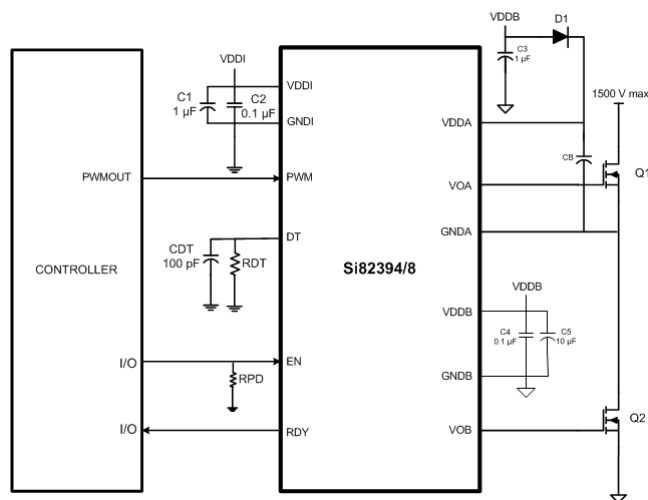

Figure 3.2. Si82394/8 Application Diagram
All high-side/low-side drivers with a single PWM input (Si82394/8) include programmable dead time, which adds a user-programmable delay between transitions of VOA and VOB. When enabled, dead time is present on all transitions. The amount of dead time delay (DT) is programmed by a single resistor (RDT) connected from the DT input to ground per the equation below. Note that the dead time pin should be connected to GND1 through a resistor between the values of 6 kΩ and 100 kΩ and a filter capacitor of 100 pF in parallel as shown in Figure 3.2 Si82394/8 Application Diagram on page 18. It is highly recommended it not be tied to VDDI. See Figure 2.18 Dead Time Waveforms for High-Side/Low-Side Drivers on page 17 below.